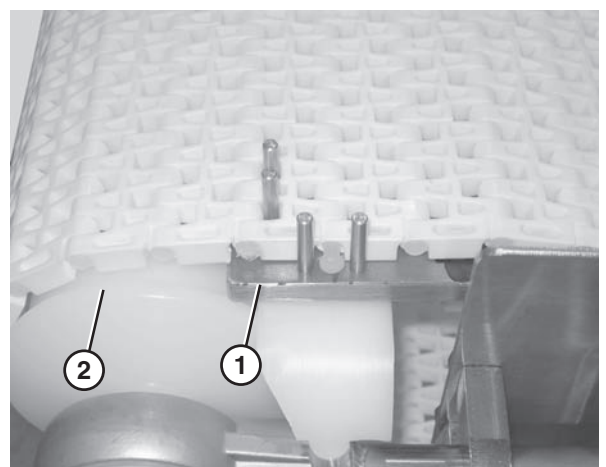

Figure 58
2. Secure the retaining head side of the belt. Use the belt removal tool (**Figure 58, item 1**) for 1" pitch belts. For all other belts, position the section of belt so that it is braced by the flanged puck (**Figure 58, item 2**).